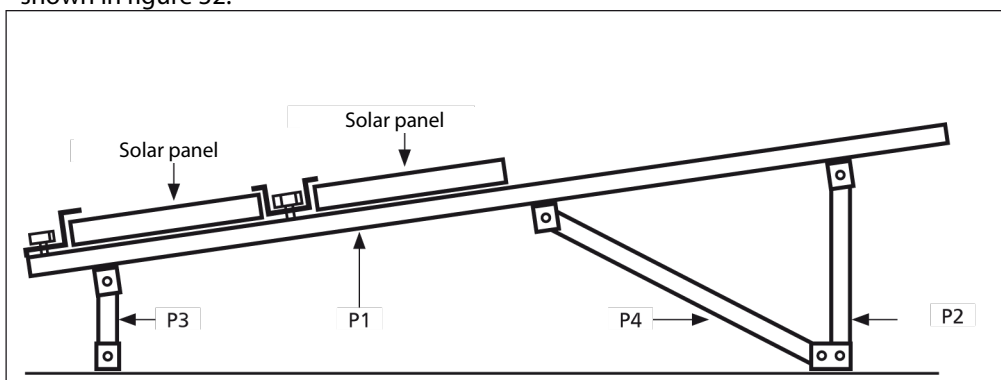

Figure 32
- Fit the second photovoltaic module to the two P1 type formed sections and tighten the T fasteners as shown in figure 32.